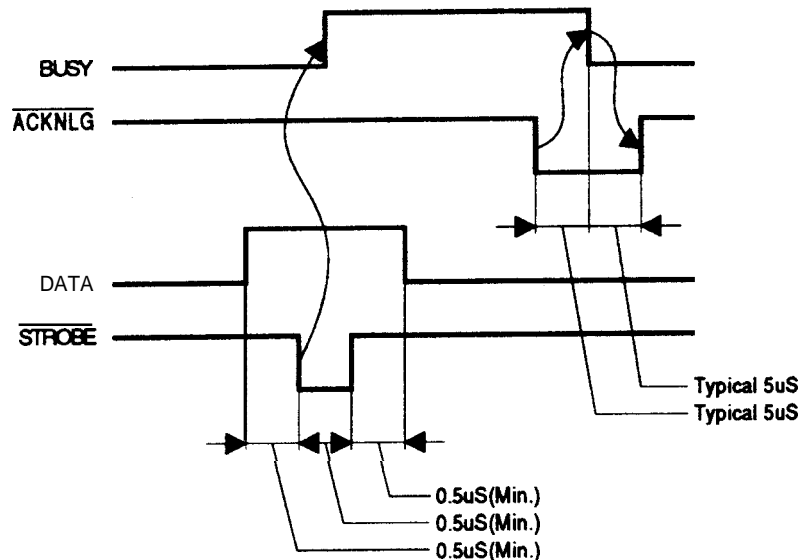

Figure 1-22. Data Transmission Timing
- During data reception (See Figure 1-22.)